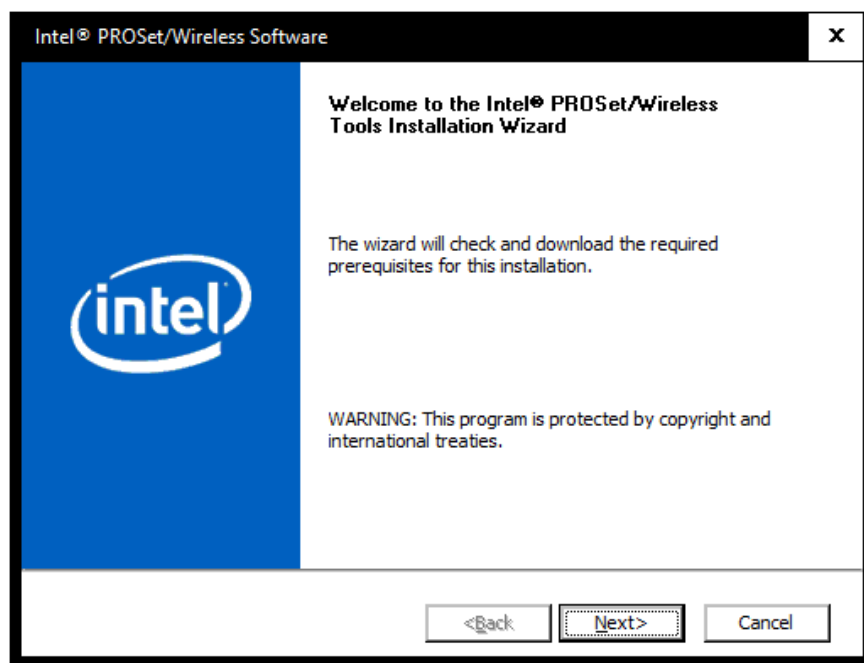

Figure 5-8: Bluetooth Driver InstallShield Wizard
- Step 2:** Double click the setup file in the folder. The InstallShield Wizard screen appears (Figure 5-8).